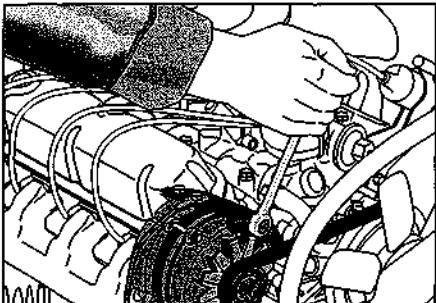

Figure 14-12:
4. Tighten the nut or bolt with the adjustable slot first, followed by the pivot nut or securing bolt (see Figure 14-12).
2. Loosen the adjustment bolt or securing nut (refer to Figure 14-12).